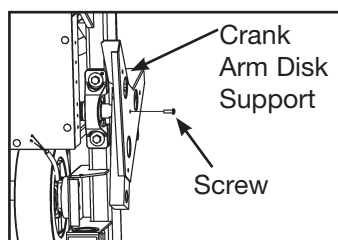

Figure 6
- B. Using a Phillips screwdriver, remove the screw securing each crank arm disk support. See Figure 6.